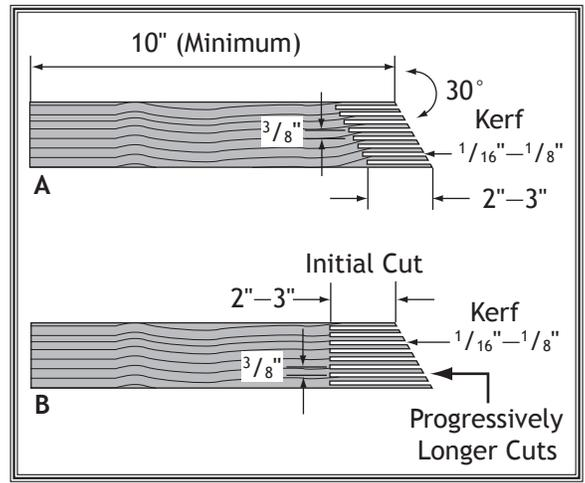

Figure 78. Patterns for making featherboards.
3. Make a series of end cuts with the grain $\frac{3}{8}$ "- $\frac{1}{4}$ " apart and 2"-3" long, as shown in **Figure 78** (A). Alternatively, start cuts at 2"-3" deep, then make them progressively deeper, as shown in **Figure 78** (B).